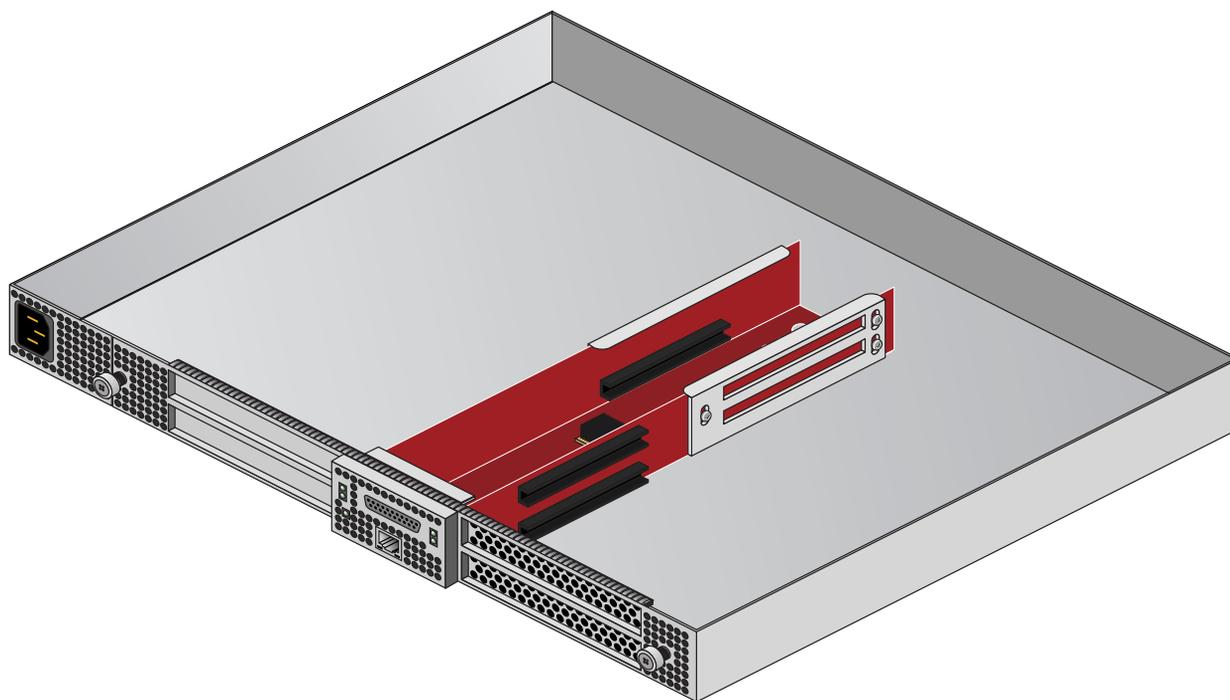

Figure 5-2 The PCIe Expansion Enclosure
1. Working from the front of the expansion chassis, locate the two “thumb screws” that hold the PCIe board “carriage” in the expansion chassis, see Figure 5-2 on page 60.